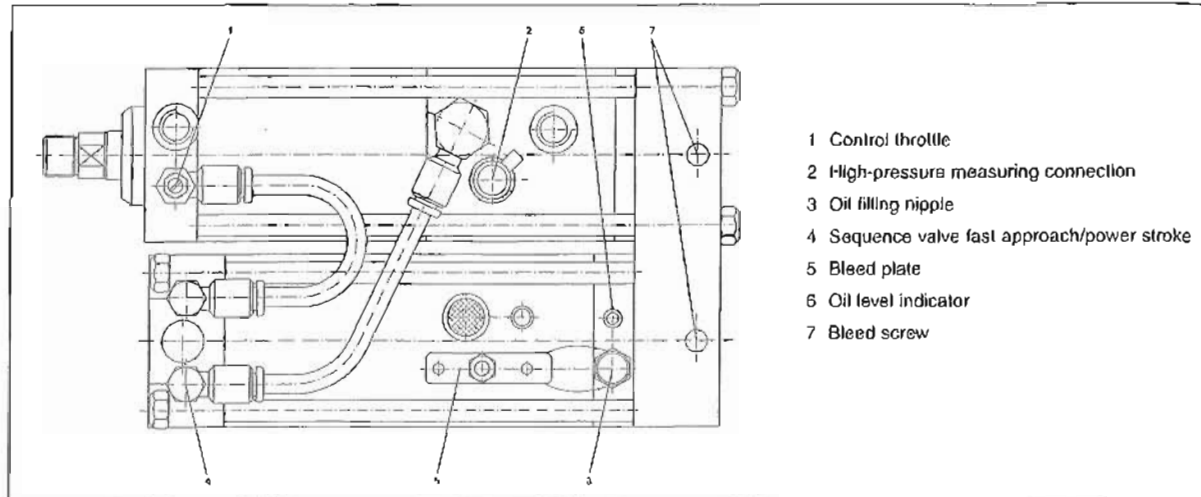

Fig. 9.2
2. Dismount vent plate (5) (Fig. 9.2) together with locking wire and knurled cap of oil filling nipple (3). Borehole "U" (0.6 diameter) becomes visible.
6. Loosen both vent screw (7) slightly and allow oil to continue flowing until it emerges free of bubbles then seal vent screws (7) again. Pump in oil again (max. 2 - 3 pump lifts).
4. Continue pumping oil until it emerges free of bubbles from borehole "U". Stop pumping, mount vent plate. Loosen both vent screws slightly and allow oil to continue flowing until it emerges free of bubbles, then seal vent (7) again.
5. Push a 2 mm diameter pin into HP measuring terminal (Fig. 9.2) until oil emerges free of bubbles.
2. Dismount vent plate (5) (Fig. 9.2) together with locking wire and knurled cap of oil filling nipple (3). Borehole "U" (0.6 mm diameter) becomes visible.
5. Loosen both vent screws (7) slightly and allow oil to continue flowing until it emerges free of bubbles, then seal vent screws (7) again.